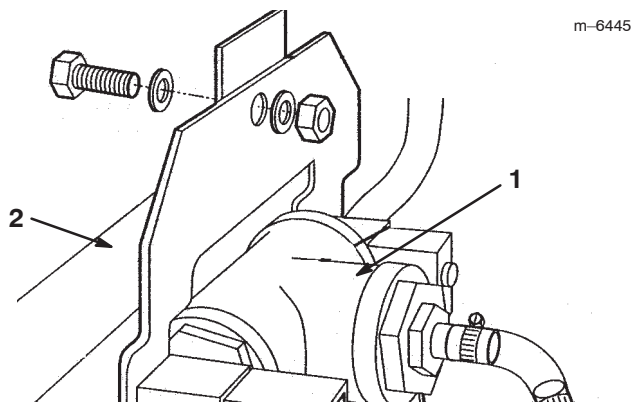

Figure 17
10. At the rear of the machine, mount the mixer assembly to the angle on the center boom assembly with a bolt (3/8 x 1 inch), flat washer, and locknut (Fig. 17).